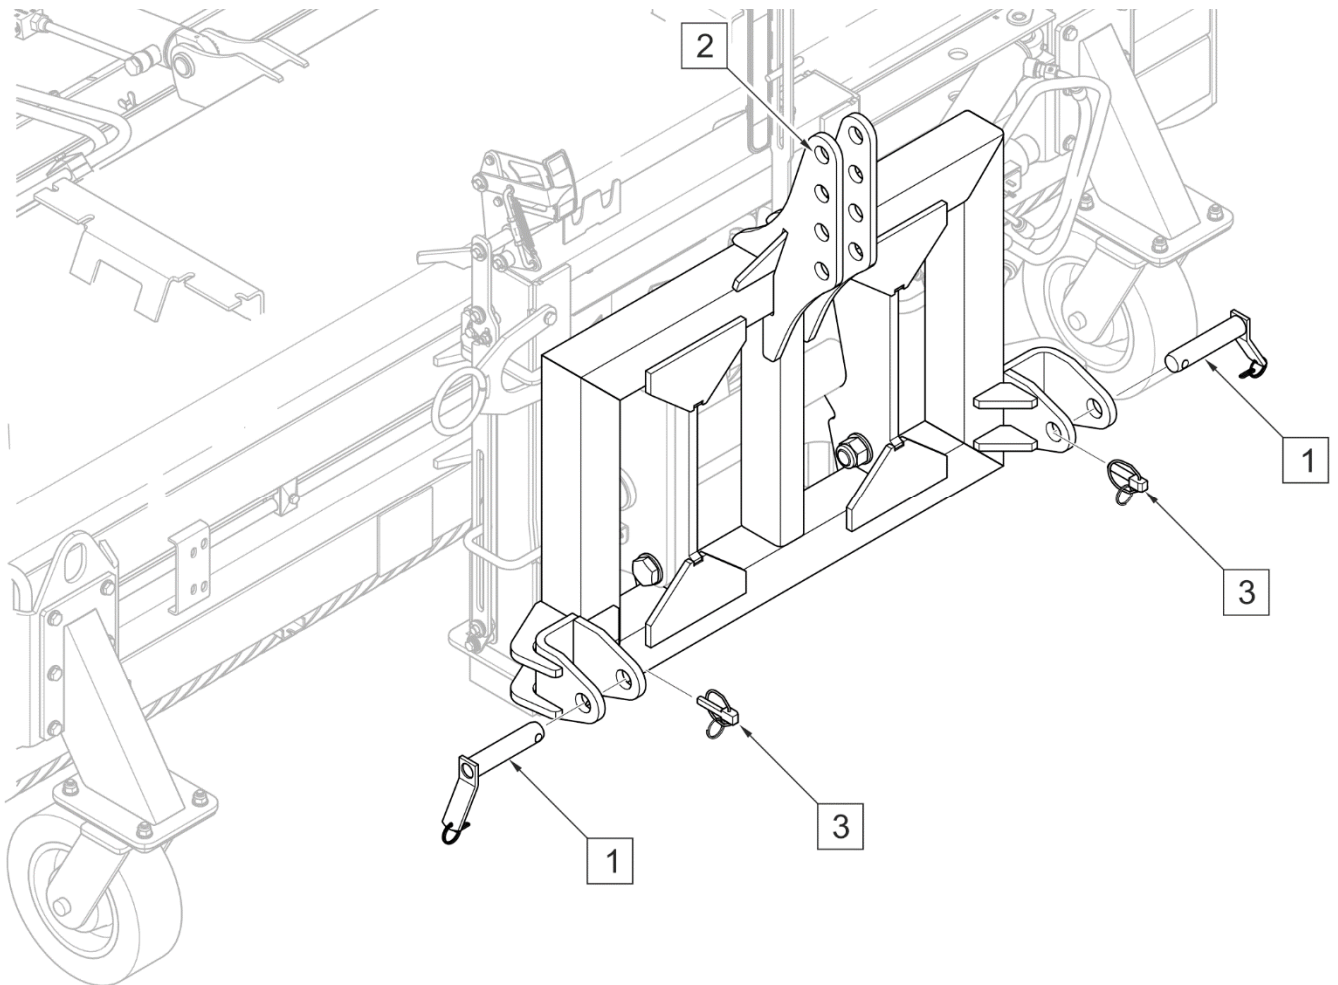

FIGURE 4.2 Category II three-point linkage according to ISO730-1
- Connect the lower pins (1) of the sweeper linkage (FIGURE 4.2) with the lower links of the tractor and secure with cotter pins (3). Using a pin, connect top link of the tractor linkage (central connector) with the proper opening of the top point of the sweeper linkage and secure.